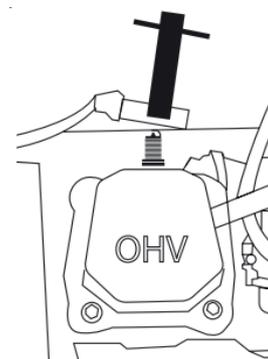

Figure 19: Remove Spark Plug
6. Using the spark plug socket wrench provided, remove the spark plug from the cylinder head (see Figure 19).